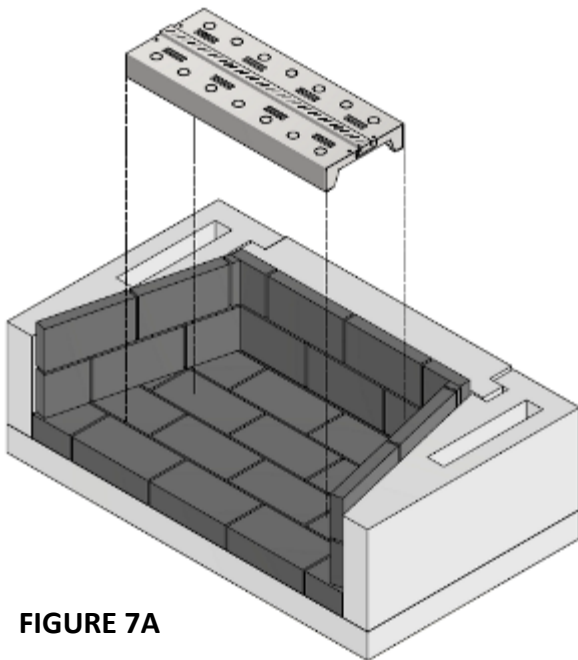

FIGURE 7A
1. Place burner assembly in center of fireplace floor (**Figure 7A-7C**). For recessed application, see page 11 for additional information.